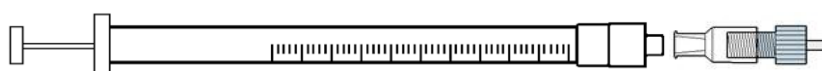

Figure 50 Luer Lock Syringe Connection to a Female to Female Luer Fitting
Step 4: Fill a 1/3 mL Luer Lock Syringe with filtered DI Water/Ethanol and connect this to the Female to Female Luer Fitting as shown in Figure 50